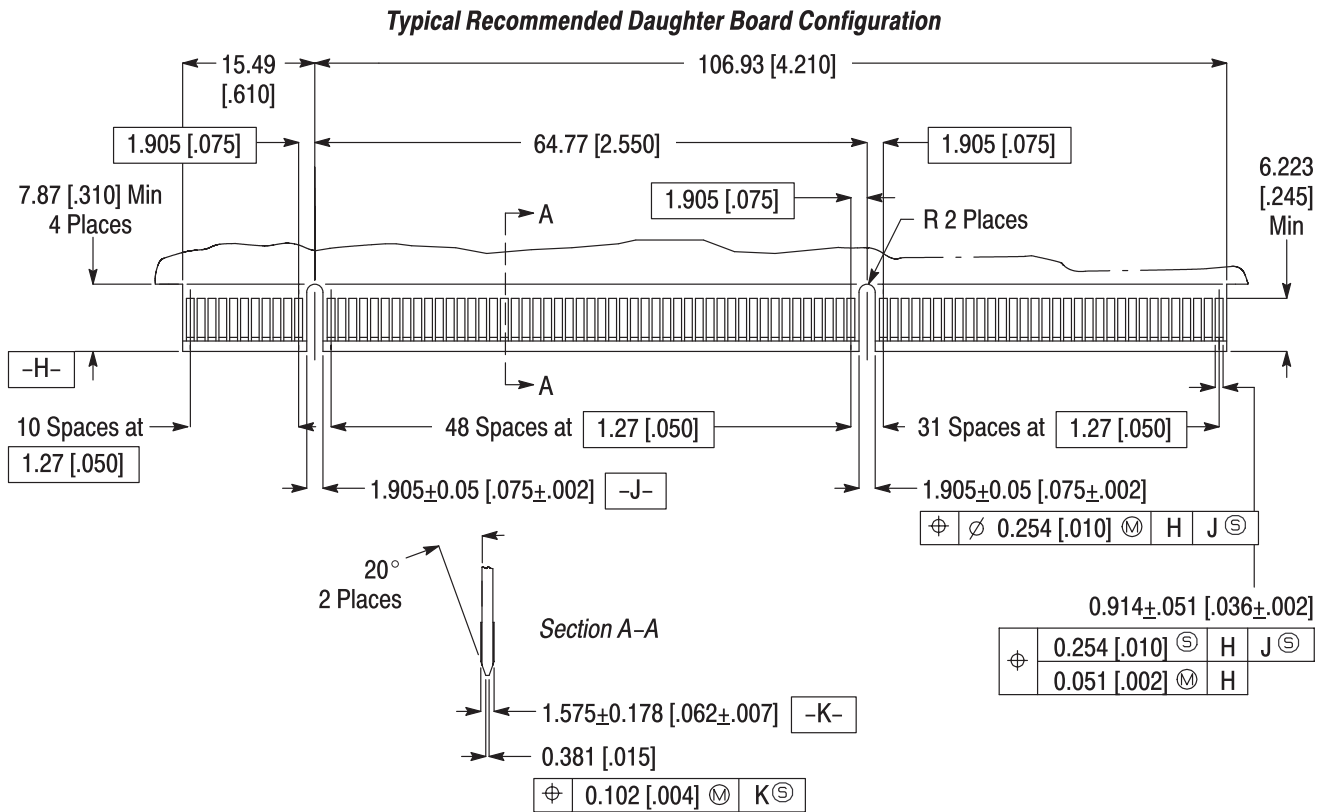

Figure 2 (end)
- Changed hole dimensions in Figure 2